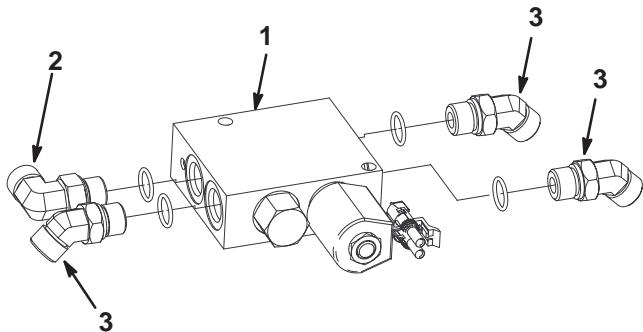

Figure 4
12. Install a 90° hydraulic fitting into the "A" port of the selector valve. Position the fitting as shown in figure 4.
13. Install (3) 45° hydraulic fittings into the remaining ports in the selector valve. Position the fittings as shown in figure 4.